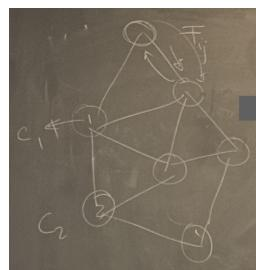

Figure 2.14: Simplified graph of a biochemical network.
- Suppose you have a (biochemical) network, and we control each transition between nodes locally (Figure 2.14).